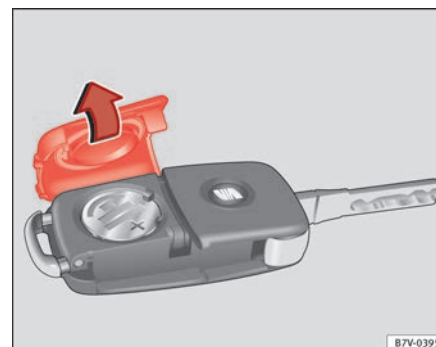

Fig. 43 Vehicle key: battery compartment cover.
The battery is located to the rear of the vehicle key, under a cover ⇒ fig. 43.
- Remove the cover from the back of the vehicle key ⇒ fig. 43 in the direction of the arrow ⇒ ①.
- Fit the battery compartment cover, pressing in the direction of the arrow as shown ⇒ fig. 43 until it clicks into place.